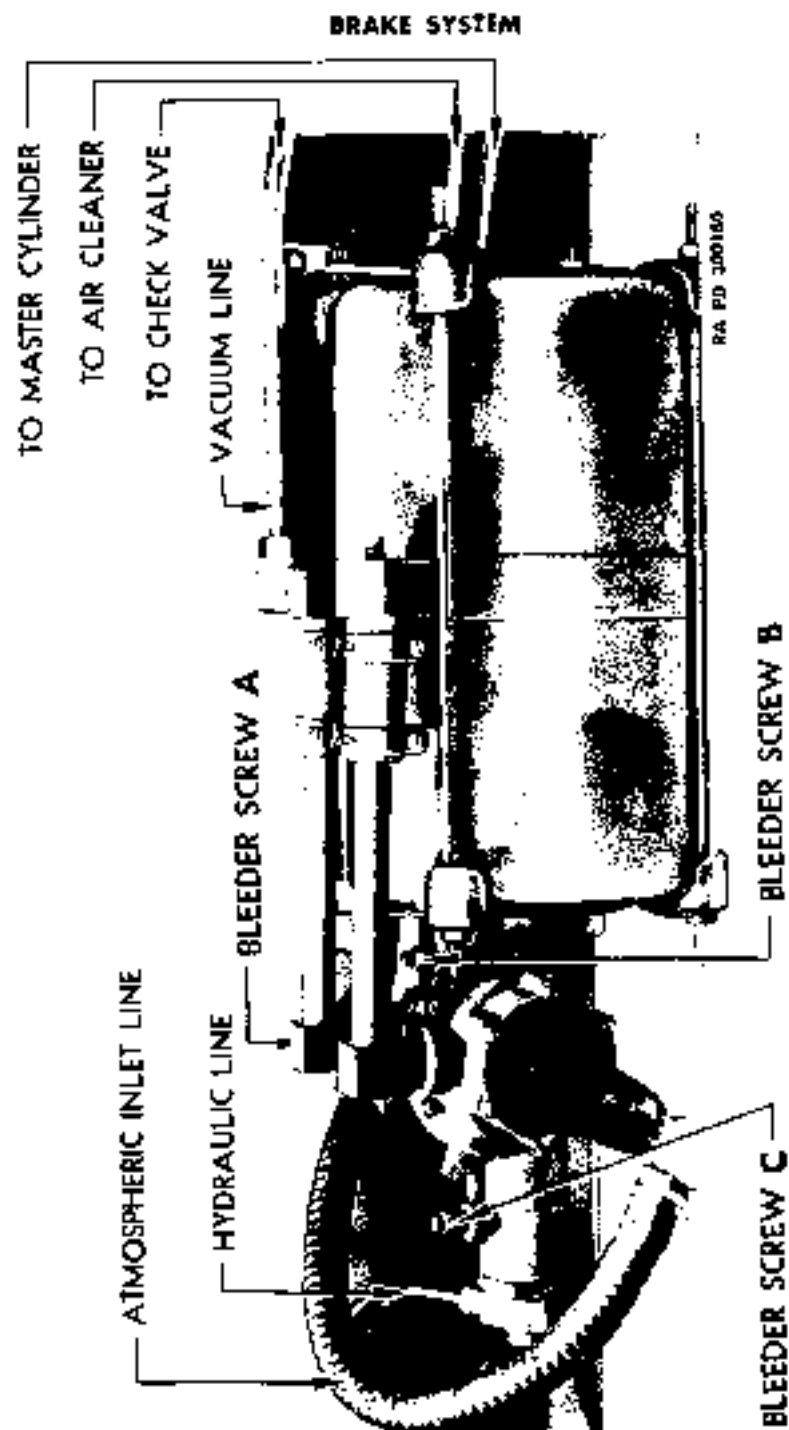

Figure 90—Hydrovac Assembly
(3) Note air pressure in pressure tank, which must be from 10 to 20 pounds. Also see that fluid level is above shut-off valve on tank. Open shut-off cock at pressure tank. Open bleeder valve screw $\frac{1}{4}$ turn counterclockwise and watch flow at end of bleeder hose. Close bleeder valve tightly as soon as air bubbles stop and fluid comes out in solid stream. Remove bleeder hose and install cap screw and lock washer. Repeat operation at all four wheels, cylinders, and at the three hydrovac bleeder screws. Hydrovac bleeder screw must be bled in proper order ("A", "B", and "C") (fig. 90). Remove bleeder hose attached to master cylinder filler cap. Install cap and floor boards.